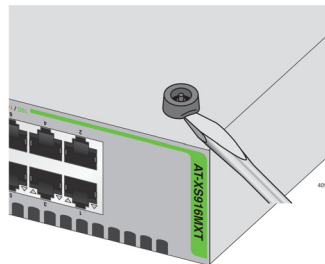

Figure 12. Removing the Rubber Feet
3. Using a flat-head screwdriver, remove the rubber feet from the bottom of the switch. See Figure 12.